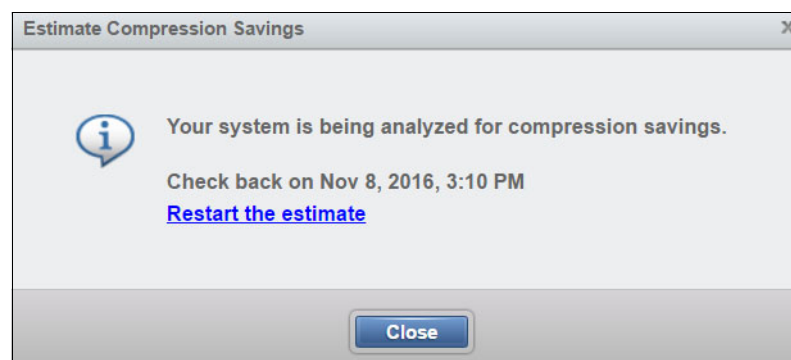

Figure 7-11 Compression Savings Estimate analysis is in progress
2. The same selection to start the analysis is used to determine whether it completed. In the Volumes > Volumes view, select **Actions** → **Space Savings** → **Estimate Compression Savings**. Figure 7-11 shows what occurs when the system is still analyzing the compression savings.